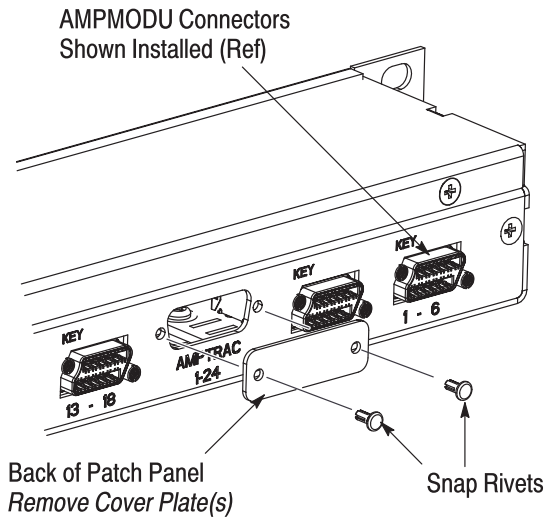

Figure 2
2. Remove all of the snap rivets and the cover plate (24-port patch panel) or plates (48-port patch panel) from the front of the patch panel. Also, for the shielded patch panel, remove the cover plate from the back of the patch panel. See Figure 2.